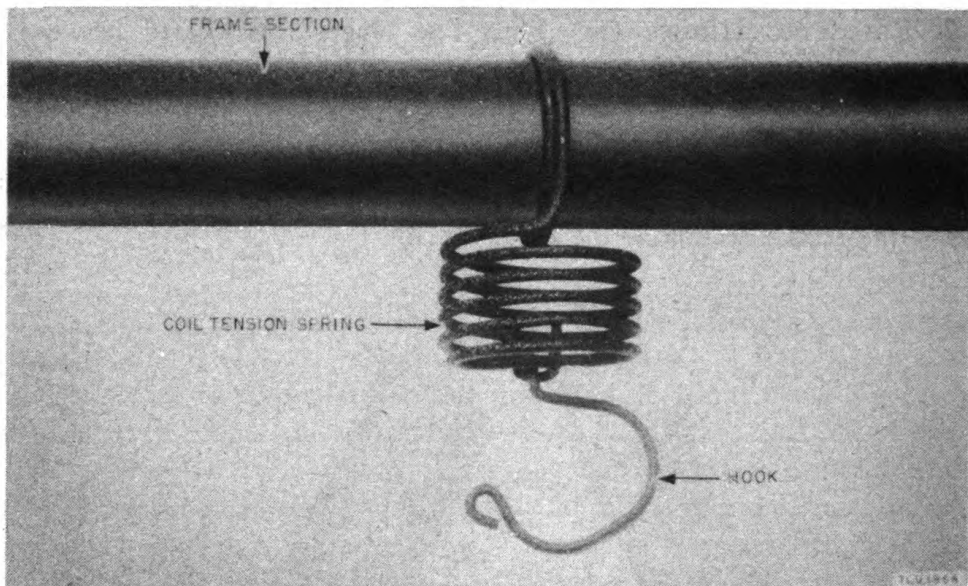

Figure 14. Detailed view of coil tension spring.
c. REPLACING COIL TENSION SPRINGS (fig. 14). The coil tension springs are suspended from the tubular frame. To replace the defective spring, slide it toward the end of the tubular section on which it is suspended. Remove the hinge or the interlock spring assembly that prevents the spring from being slid entirely off the tube. When the obstruction is removed, remove the defective spring and slip a new spring over the tube. Reinstall the interlock spring assembly or the hinge. (See *a* and *b* above.)